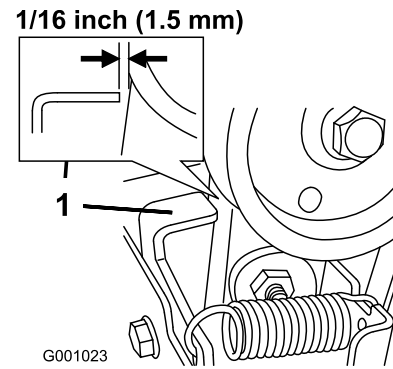

Figure 47
- With the auger/impeller lever disengaged, ensure that the gap between the auger clutch assembly and the tab is 1/16 inch (1.5 mm) (Figure 47).